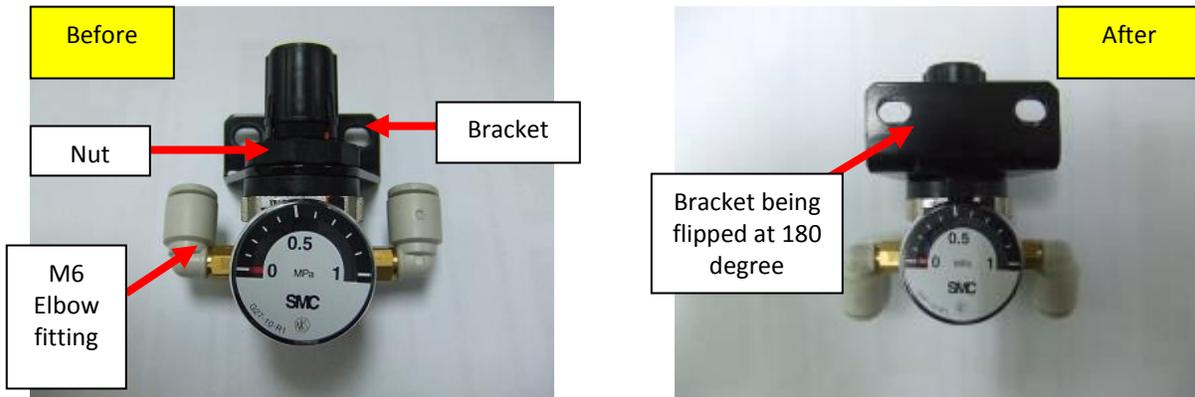

Figure 10: *Flipping the pressure regulator to new configuration*
- Next, the external pressure regulator which has been removed in Step 5 will be installed back to fixture again. However, the nut of the pressure regulator needs to be loosened in order to flip the bracket of the pressure regulator at 180 degree to get the configuration as shown in Figure 10. Remember to tighten back the nut after the new configuration is achieved.